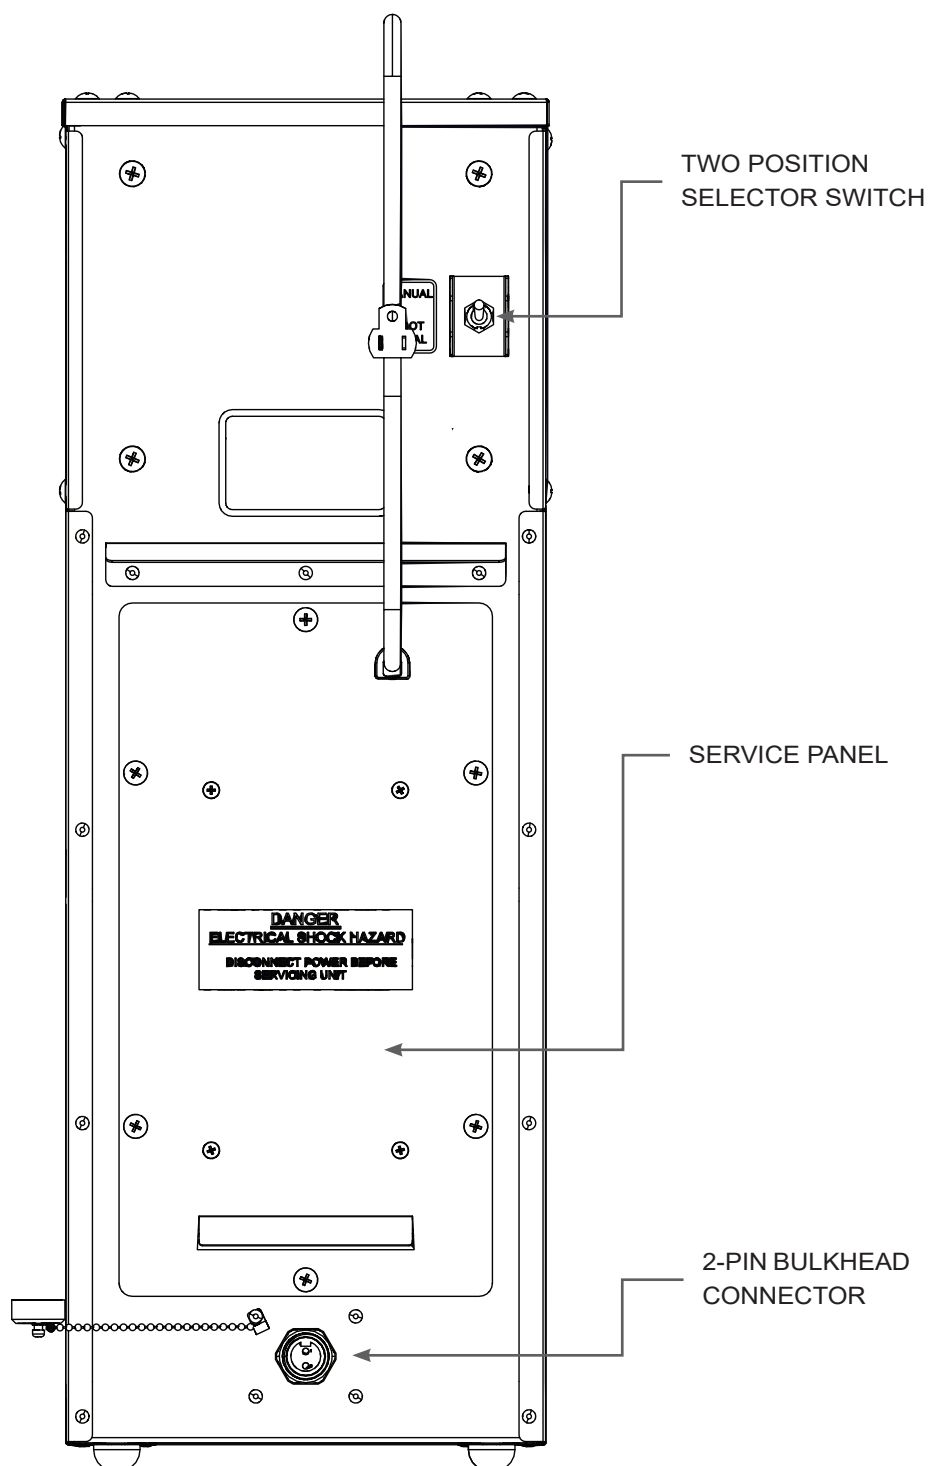

Figure 2. BLIZZARD® Machine Controls Back Side
1. Two position "Manual" bypassas foot pedal if the selector switch ON/OFF/JOG is used for opration. (See Figure 2.)
1. This socket/connector is to connect foot pedal. Adding a foot pedal is on optional feature. (See Figure 2.)